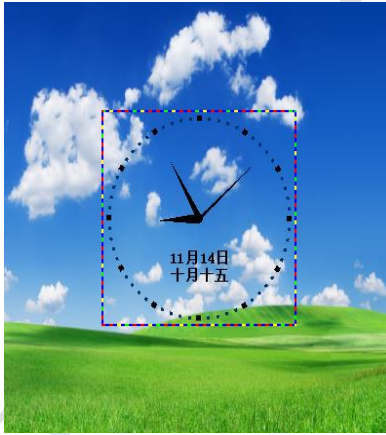

Fig 4-26 Transparent Displaying Effect of the Clock
**Attention:** All display windows on the same program page plays simultaneously. If the display windows overlap with each other, the upper-layer windows will cover the lower-layer windows. For example, if you add a common window and then a clock window of the same size and coordinate, the common window will cover the clock window when they are playing. If you want to display the clock window, you need to click **Pause**, perform the **Move Up** operation to move the clock window to the front side of the common window, and then click **Play**. If the clock is displayed transparently, the clock will overlay the media of the common window when the playing solution is played upon the moving operation. Figure 4-26 shows the displaying effect: